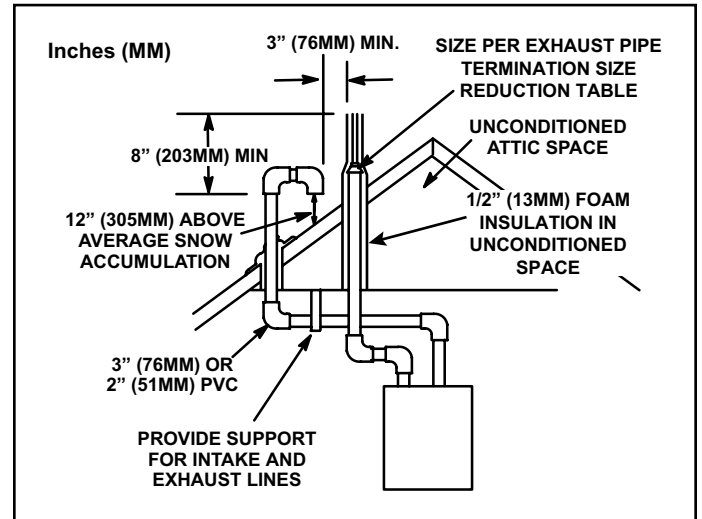

Figure 27. Direct Vent Roof Termination Kit (15F75 or 44J41)
3. On roof terminations, the intake piping should terminate straight down using two 90° elbows (Figure 27).